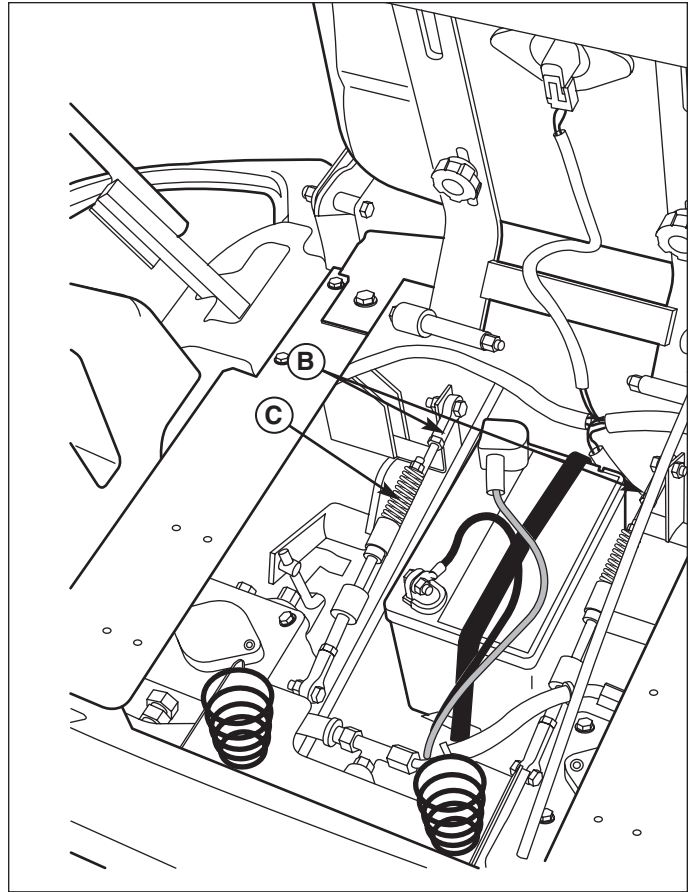

Figure 13. Neutral Adjustments
3. Check the control rod spring (A) length. The compressed spring length should be 2-3/16" (5,56cm)
4. Disconnect the rod end (B, Figure 13) and loosen the jam nut. Turn the rod end one to two turns to lengthen or shorten the control rod, then retighten the jam nut, and reconnect the rod end.